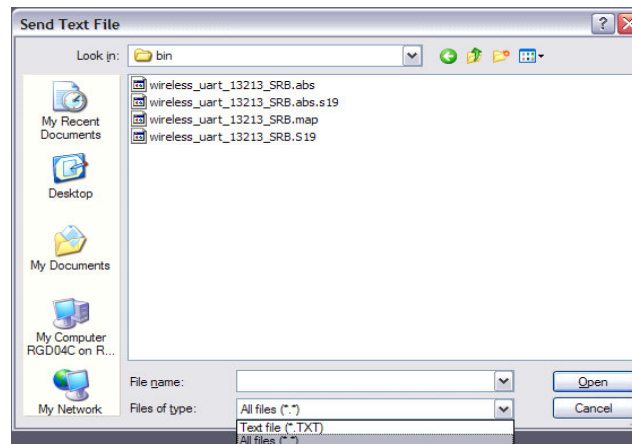

Figure 60. Setting the Send Text File Window to Look For All File Types
7. Configure the Send Text File window to look for all file types as shown in Figure 60.